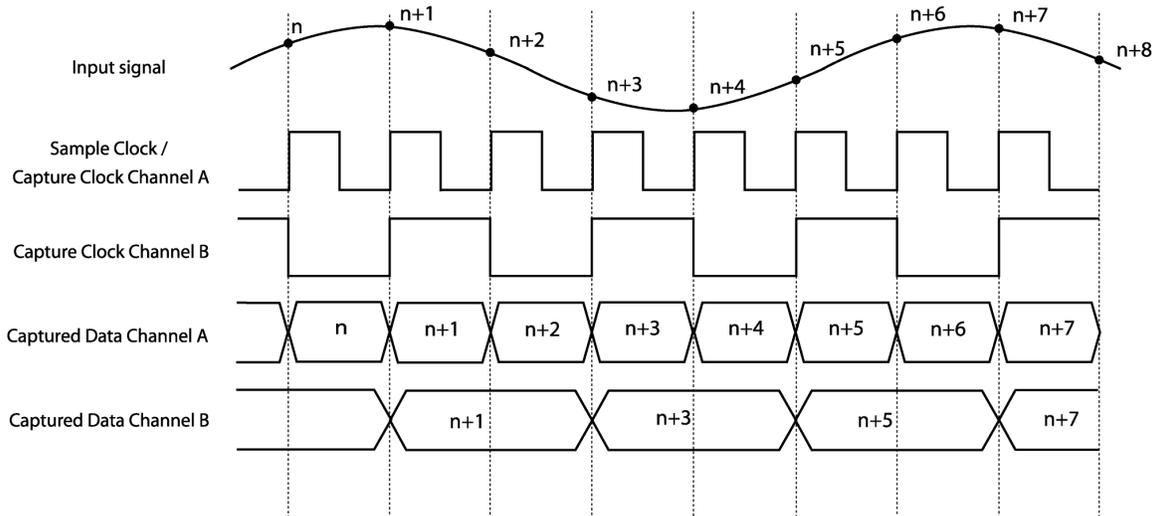

Figure 6 Different capture frequency's
**Example:** A analog signal is connected to channel A and B. (see Figure 6) The ADC sample clock is 96kHz. The capture divider for channel A is set to 1 and for channel B it is set to 2.